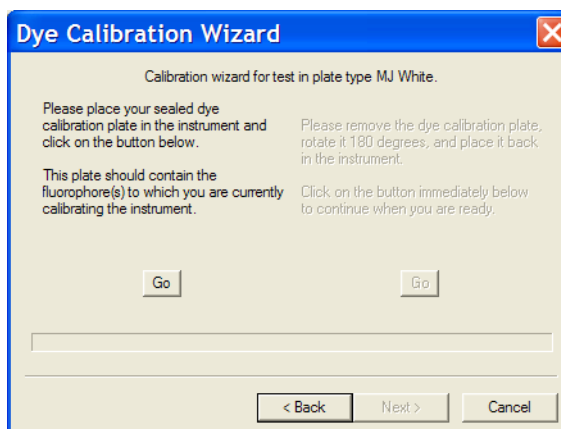

Figure 10-4. Continuing with fluorescent dyes
14. Click *Go* to continue the calibration (see Figure 10-4).